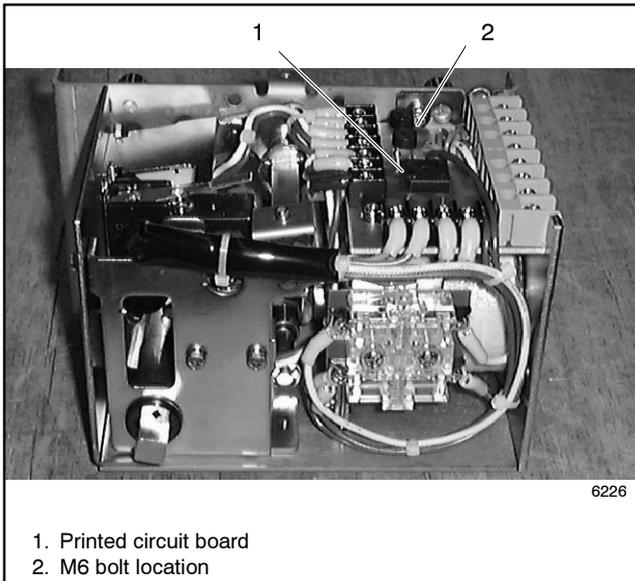
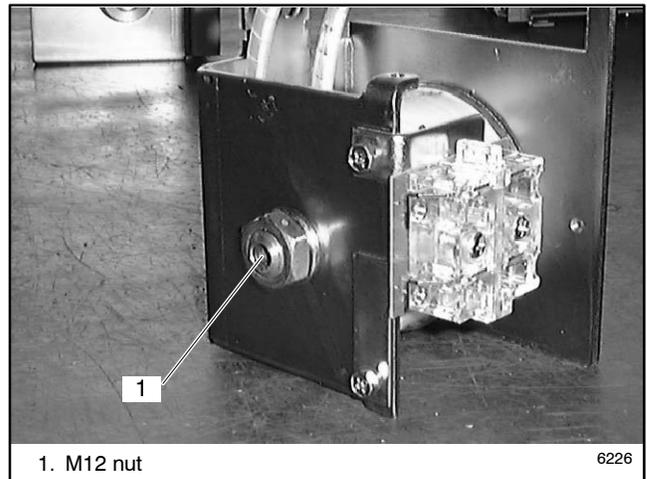

Figure 6-15 Printed Circuit Board and M6 Bolt (for closing coil)
Figure 6-16 Closing Coil with Frame, 100-400 Amp Models
3. Remove the printed circuit board. See Figure 6-15 and Section 6.2.3.
4. Loosen the M6 bolt and remove the frame with the coil. See Figure 6-15 and Figure 6-16.
5. Loosen the M12 nut and replace the closing coil. See Figure 6-16.